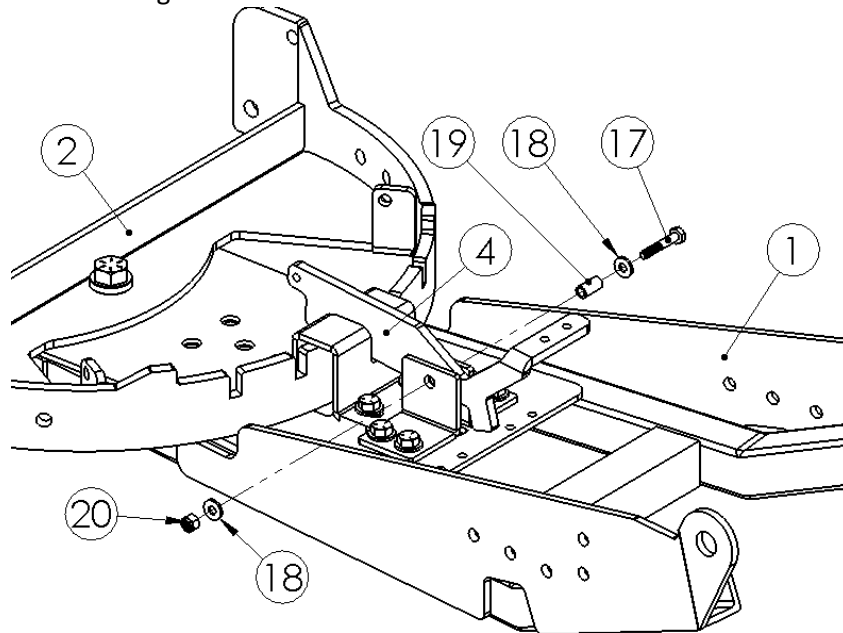

Figure 8
- 4) Attach the Pivot Lock Lever to the Pivot Lever Risers using the $\frac{1}{4}$ " x 1.5" Hex bolt, $\frac{1}{4}$ " Washers, $\frac{1}{4}$ " Aluminum Spacer and $\frac{1}{4}$ " Nylock Nut as shown in Figure 8.